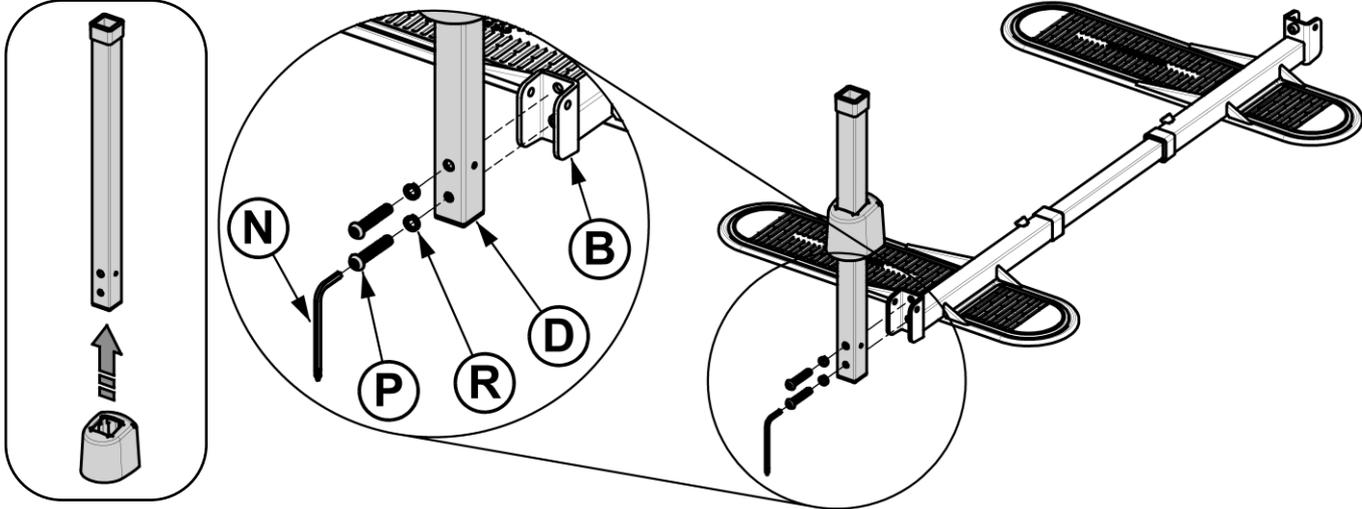

FIGURE 20
20. Slide Plastic Cover **J** over Upright **D**, and hold **J** up during screw install. Align holes in External Upright **D** with holes in Base **C** as shown in *FIGURE 20*. Insert Screws **P** (2x) through Washers **R** (2x) and Upright **D**, thread into Base **C**, and secure with Tool **N**.